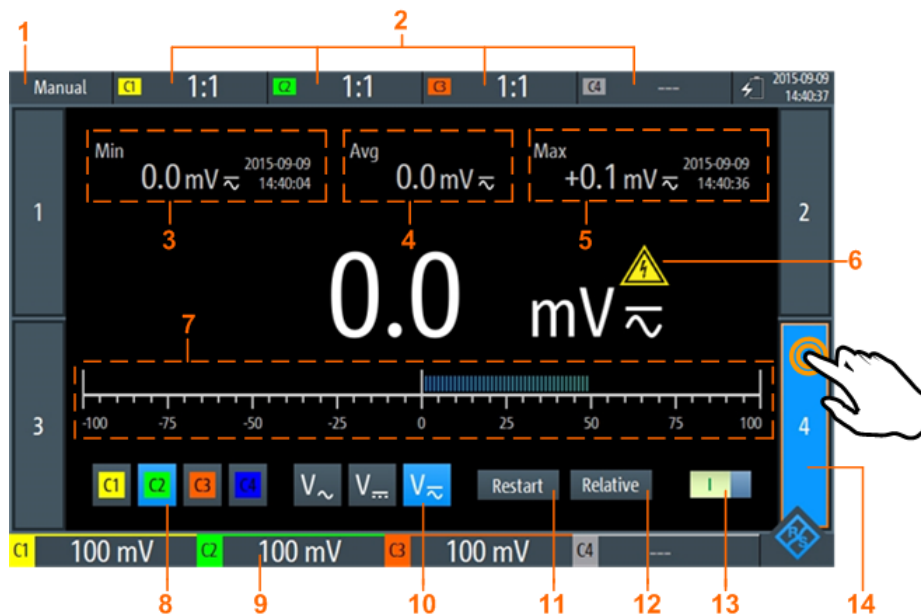

Figure 6-4: One-voltmeter-view
- Tap the highlighted number of the opened voltmeter as shown in Figure 6-4.
3. Select the channel to be measured (no. 8 in Figure 6-4).